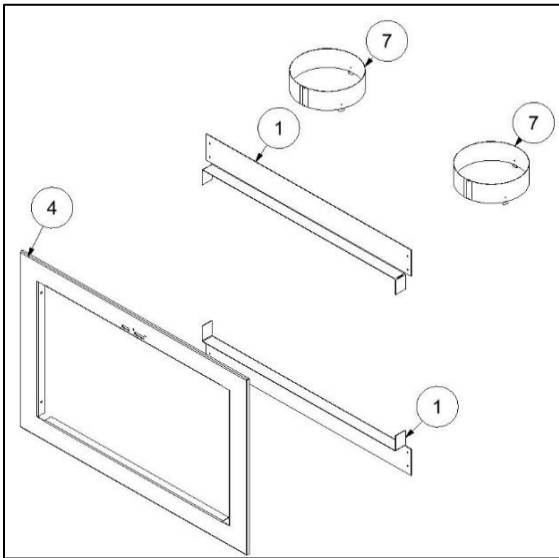
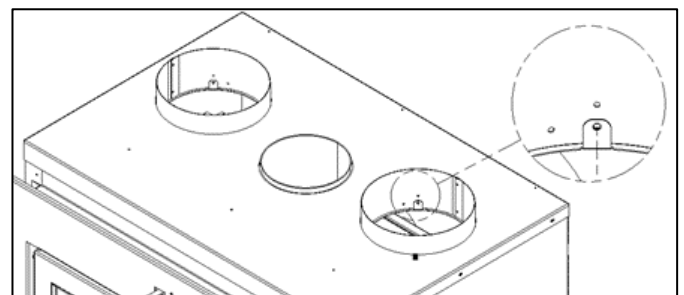
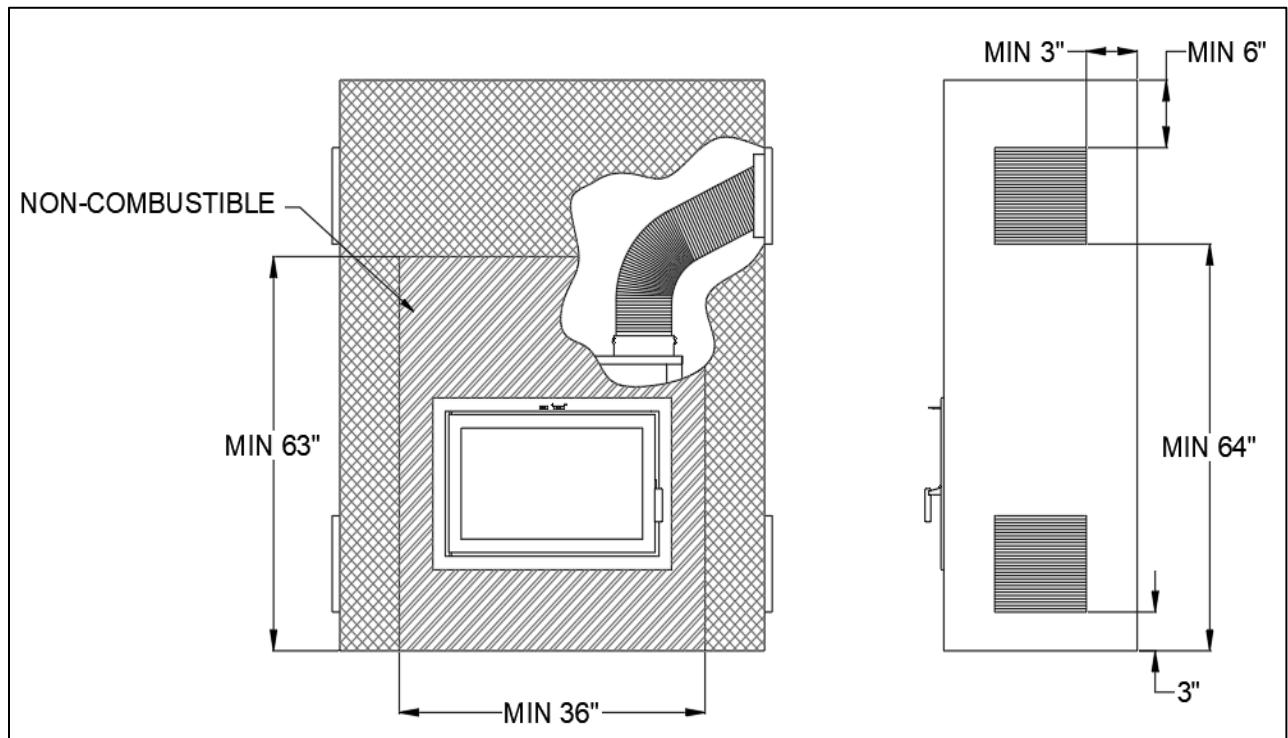

Figure 3-15: Clean Face Surround Components
Figure 3-18: Tabs Inside the 8 Inch Knockouts
Figure 3-25: Clean Face Astra 24 Chase
The Clean Face surround comprises no louvers; however, an intake into the chase and an outtake through gravity ducts is required for this configuration. The instructions below describe the installation of the Clean Face surround. Refer to Figure 3-15 Table 3-3 for the instructions below. Refer to Section 3.4 for Gravity Kit installation instructions.
4. Place the surround (Item 4 in Figure 3-15) within the door holder and secure it in place with 4 black screws (one on each corner). Make sure that the handles of the Combustion Air Control pass through the slots of the surround.
4. Install the 8 inch duct adapters (Item 7 in Figure 3-15) through the newly cut knockouts and screw them to the bent tabs (Figure 3-18).
5. Determine the two locations of the air intakes on the chase and cut a rectangular opening 10.5" (W) X 9.5" (H). Note that a distance of 3 inches is required from the floor.
6. Determine the two locations of the air outtakes on the chase and cut a rectangular opening 10.5" (W) X 9.5" (H). Note that a minimum distance of 64 inches is required from the floor and a minimum of 6 inches is required from the ceiling (Figure 3-25). Please note that the air outtake grilles can be installed in the same room or in different rooms from each other. If the grilles are installed at different heights, more heat will be distributed to the highest one.
- Refer to Figure 3-25 for clearances to combustibles.
For the Clean Face surround option, two intake and two outtake openings must be constructed onto the chase. Refer to Figure 3-25 for minimum clearances.